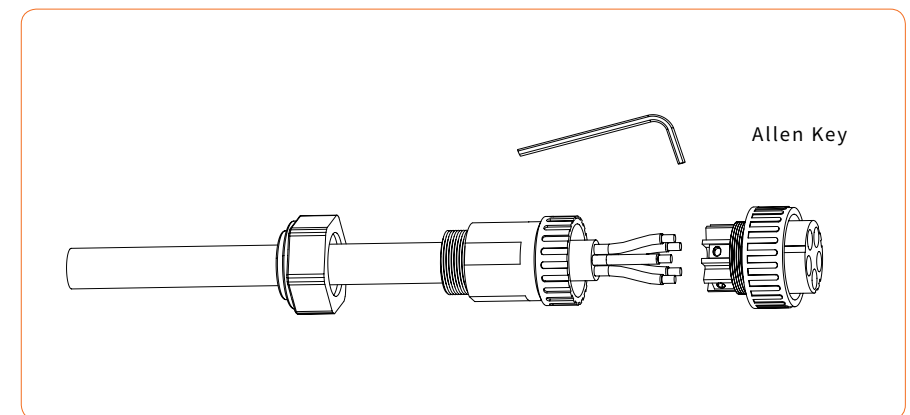

Figure 4-22
③ Insert the stripped end of the five wires into the appropriate hole of the terminal head by following the rules: yellow green wire to PE port, red or brown fire wires to L ports (no requests for the sequence of three fire wires), and blue or black wire to the N port. Please try to pull out the cable to make sure it is well connected. As shown in Figure 4-22: